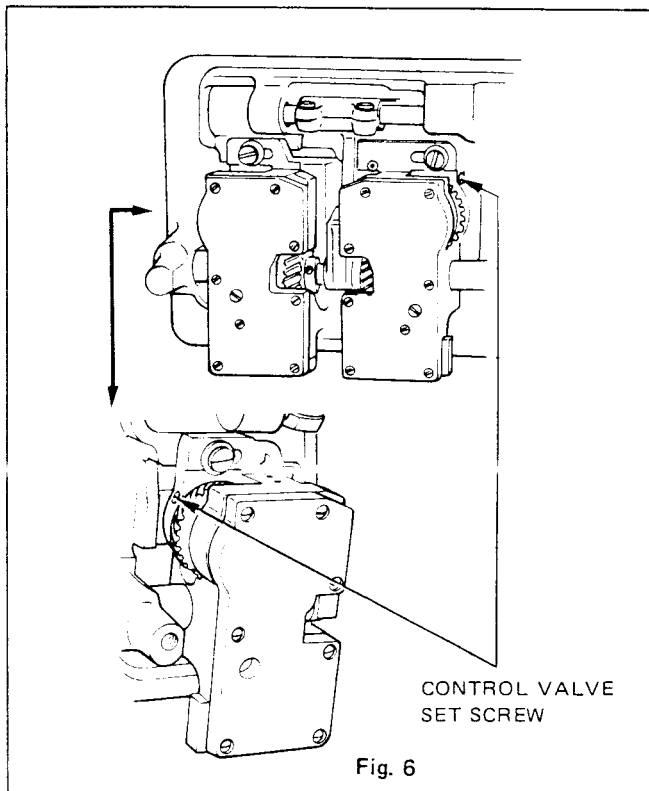

Fig. 6
1. Tip machine and loosen control valve set screw shown in Fig. 6 and return machine to upright position.